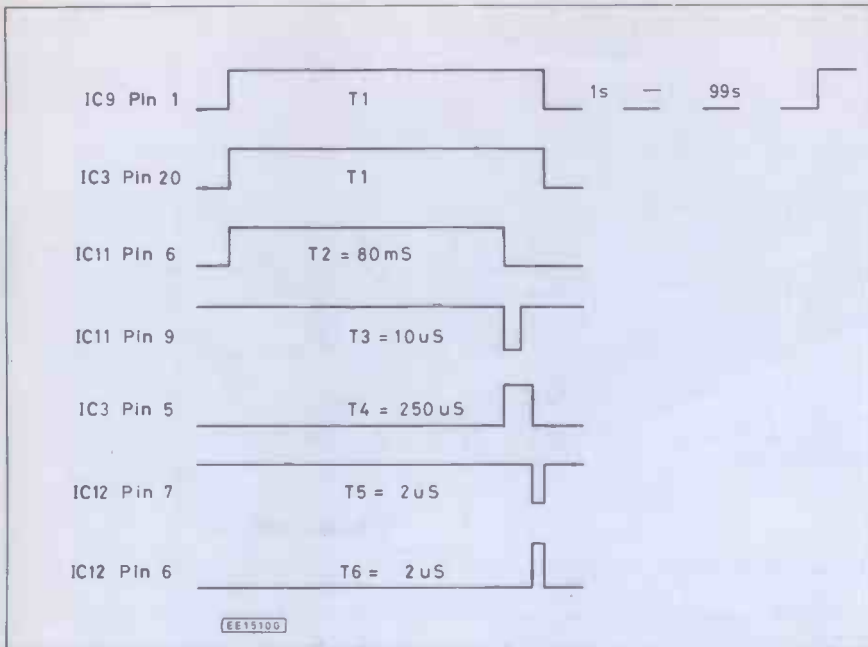

Fig. 2. Timing diagram of the Data Logger.
Looking at the timing diagram in Fig. 2 the output of IC9 Q output is shown in trace (1) as T1. This Q output is connected to the positive edge triggered input of the monostable, IC11a, and through R6 to the base of the transistor TR1 which is the power switch for the ADC. Thus when the Q output goes high, the transistor is switched on and powers the ADC as shown in (2) of the timing diagram. As a visual indication of this "on-time", the l.e.d. (D3) is also powered during time period T1. The timing components C3 and R5 connected to pins 1 and 2 of the monostable give a timing period of 80mS, shown as T2 in line (3) and this provides a delay to allow the ADC time to power up properly before it is required to do a conversion.
In order for the ADC to begin a conversion, it is necessary for \bar{CS} and \bar{WR} to be low. \bar{CS} is held low by resistor R17 and when \bar{WR} is driven low by the 10µS negative going pulse from the monostable IC11b, a conversion begins and INT goes high. At the end of the conversion period, the INT output of the ADC goes low and triggers monostable IC12a. This monostable whose period is determined by C6 and R12, creates timing periods T5 and T6, traces (6) and (7) in Fig. 2. The pulse from \bar{Q} drives the \bar{RD} input of the ADC low and causes it to output data on the data bus.